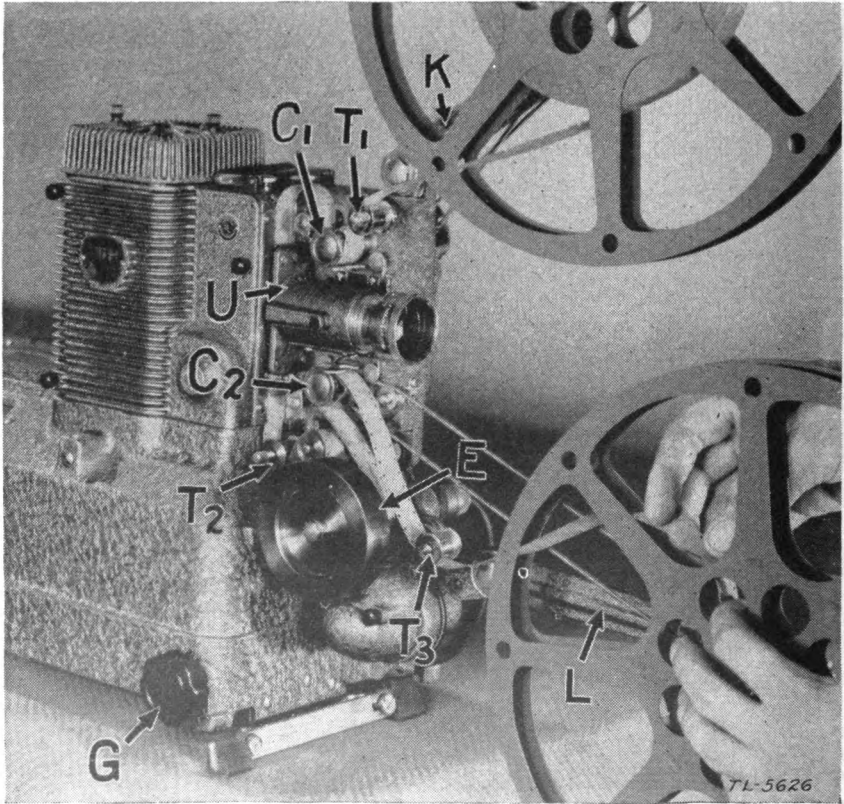

FIGURE 15.—Ampro YA projector with film threaded.
**7. Threading film.**—The method of threading film is the same for all projectors, with minor exceptions. Figures 15, 16, 17, and 18 show each projector completely threaded and each part labeled for easy identification. The following procedure is observed in threading each projector: